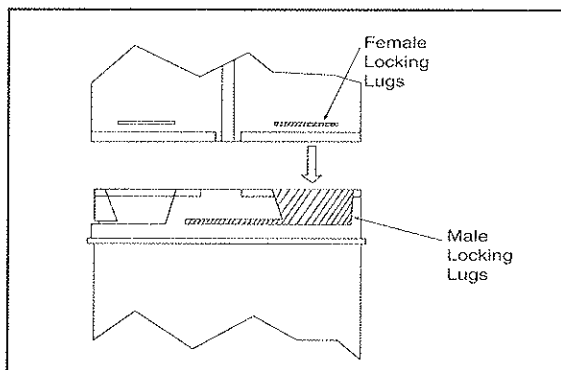

Figure 6
The Dura-Vent GS is unitized and twist-locks together. For the twist-lock procedure, consult Figure 6 and do the following:
(1) Four indentations, located on the female ends of pipes and fittings, are designed to slide straight onto the male ends of adjacent pipes and fittings, by orienting the four pipe indentations so they match and slide into the four entry slots on the male ends. (Figure 6.) Push the pipe sections completely together, then twist-lock one section clockwise approximately one-quarter turn, until the two sections are fully locked. The female locking lugs will not be visible from the outside, on the Black Pipe or fittings. They may be located by examining the inside of the female ends.
(2) Horizontal runs of vent must be supported every three feet. Wall Straps are available for this purpose.